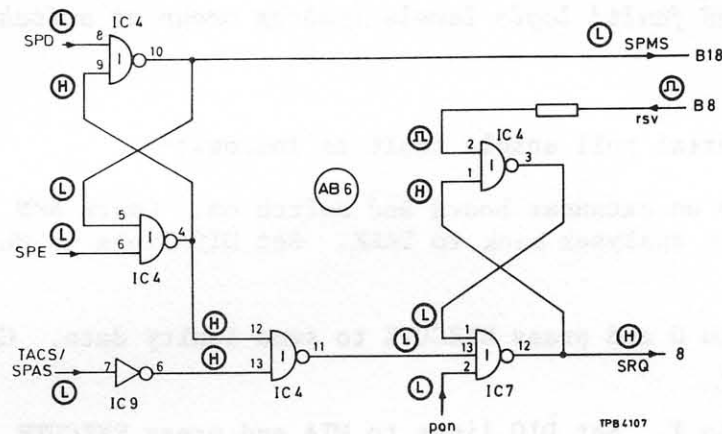

Fig. 5 'Service request fault' logic levels
- (1) Switch off, then on and set ATN to 1. Set DIO lines to MLA and press EXECUTE.
- (2) Set ATN to 0 and press EXECUTE (to send faulty data) while watching AB6,B8. Check for a positive pulse (TF 2356) or continuous pulsing (TF 2357). If not, either AB5 IC7 or ROM 3 output port is faulty.
- (3) Place AB6 on extender board. Repeat steps (1) and (2) above then localize fault by comparing logic levels with those given in Fig. 5 (to generate TF 2356 rsv pulse repeat steps (1) and (2) above).